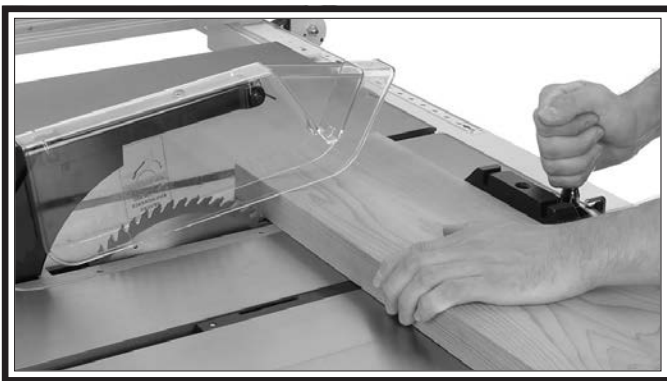

Figure 68. Typical crosscutting operation.
7. Hold workpiece firmly against face of miter gauge (as shown in **Figure 68**), and ease it through blade until workpiece is completely past saw blade.